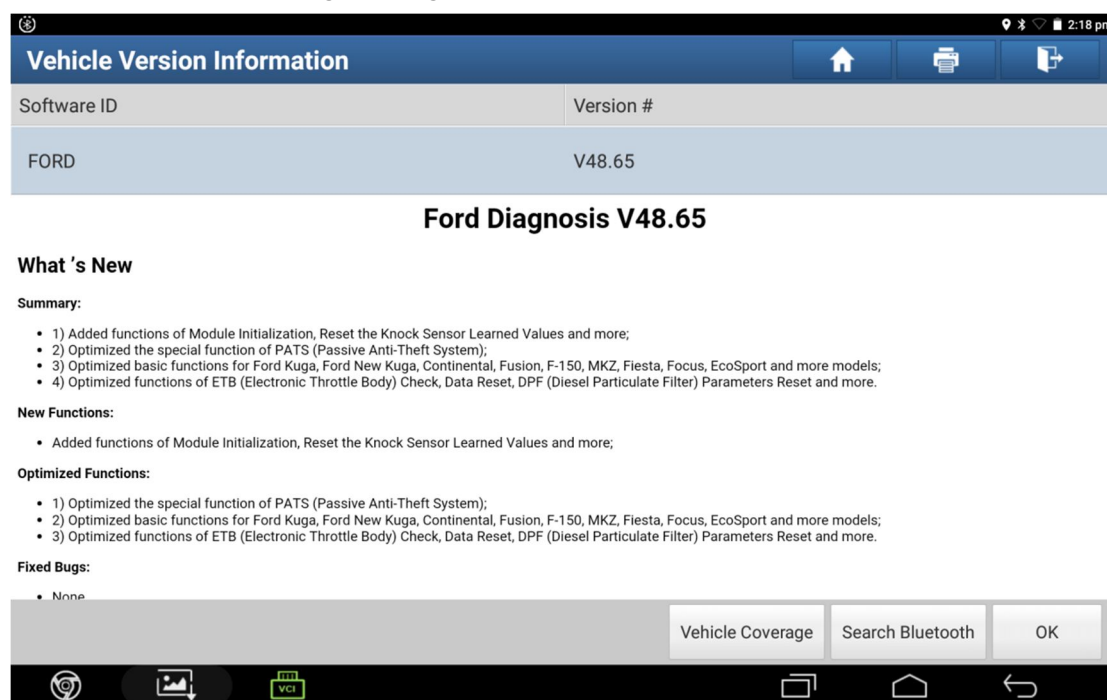
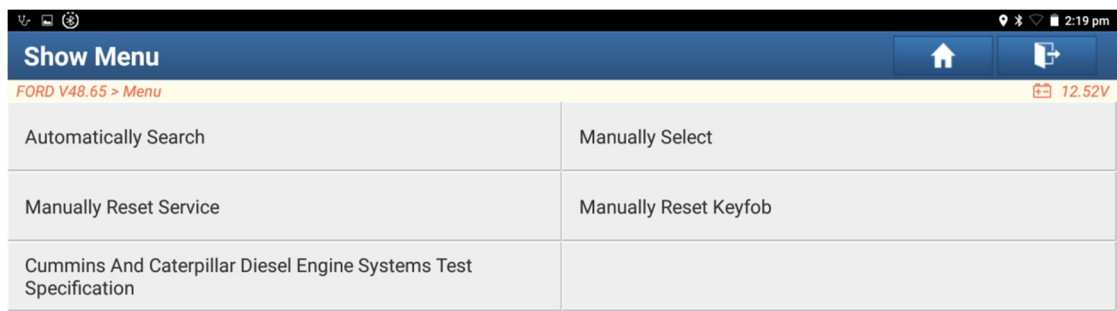

Figure 1
Figure 2
1. Select [Auto Search] (Figure 1, Figure 2).